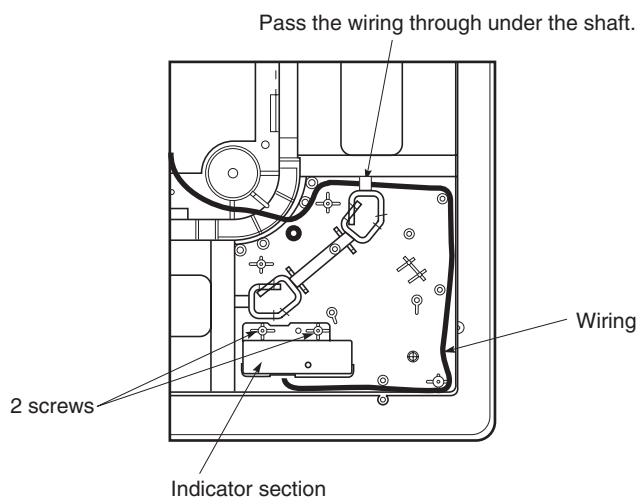

Fig. 1-89
- (4) Install the indicator section in the location where the mark section was attached. (2 screws)
- (5) Form the wire to match the panel ribs as shown in Fig. 1-89.
- (6) Install the corner cover. (Restrain the wire with the corner cover.)